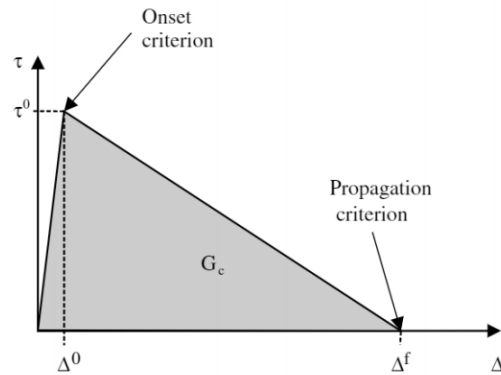

Fig. 3.8: **Bilinear Traction Separation Law** or the linear softening law [2].
- ‘GcNormal’** Fracture toughness in opening mode G_{C_I} . See Fig. 3.8
- ‘GcShear’** Fracture toughness in shear mode $G_{C_{sh}}$. See Fig. 3.8
- ‘gFailureNormal’** Final or failure displacement gap in opening mode Δ_I^f . See Fig. 3.8
- ‘gFailureShear’** Final or failure displacement gap in shear mode Δ_{sh}^f . See Fig. 3.8